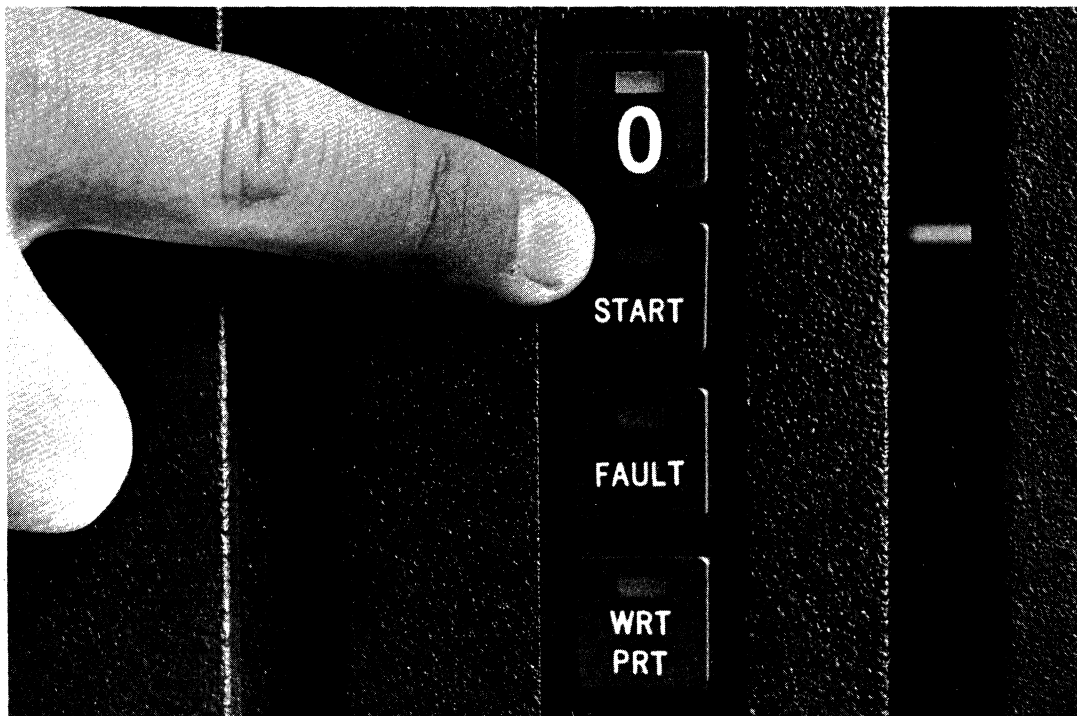

Figure 3-2. Initiating Power-On
2. Press the START button (Figure 3-2). If the unit is working properly, the READY indicator (located on the START button) will flash, indicating that the power-on sequence is in progress.